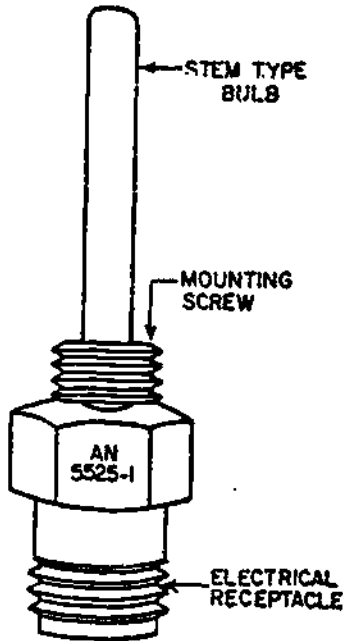
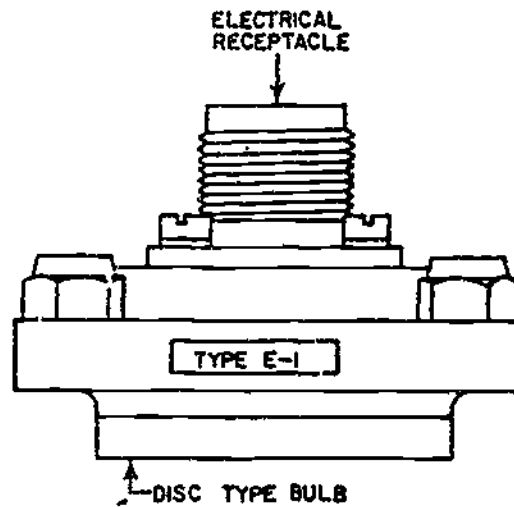

Figure 5.
Figure 6.
The resistance thermometer temperature bulbs come in different shapes. Two of the most common shapes are shown in figures 5 and 6. The stem type bulb, shown in figure 5, can be used as a carburetor air temperature bulb or oil temperature bulb. The disc type bulb, shown in figure 6, is used as a free air temperature bulb. The bulbs are the sensing elements of the system.
1. The bulb shown in figure 6 can be used as